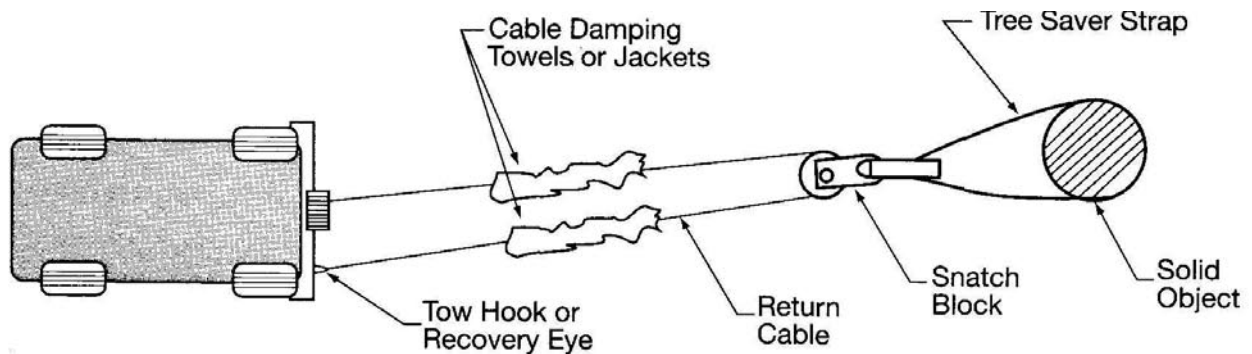

Figure 6
- Attach return cable to tow hook or recovery eye when using a snatch block. Always use a clevis to secure snatch block to strap, or severe damage could occur to persons and vehicle. (See Figure 6 Below). Caution: Never attach return cable to winch mount. This may overload winch mount and/or front receiver.